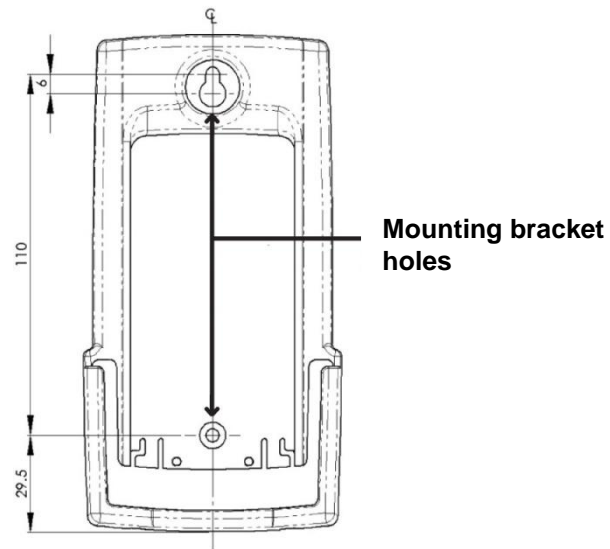

Figure 4-1: wUIU Base view
1. Place the wall mount bracket against the wall, ensuring that the unit is level (*Figure 4-1*).